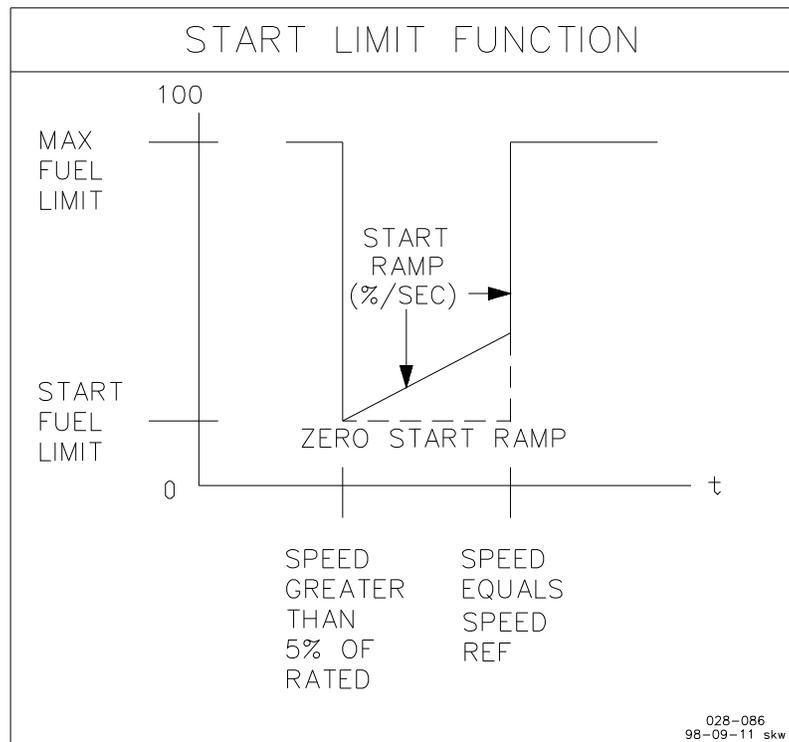

Figure 3-6. Start Limit Function
1. **START FUEL LIMIT (%FD)** limits the percent fuel demand when the engine is started. The limit is usually set at the fuel level required to start the engine. The limiter is disabled when the engine speed exceeds 95% of speed reference (see Figure 3-6).